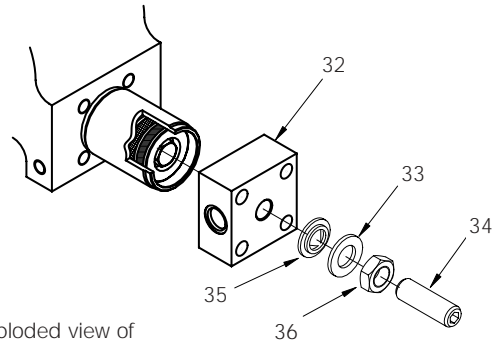

Fig. 4 Exploded view of stroke adjuster components
**Adjustment of Stroke Adjuster Fig. 4**